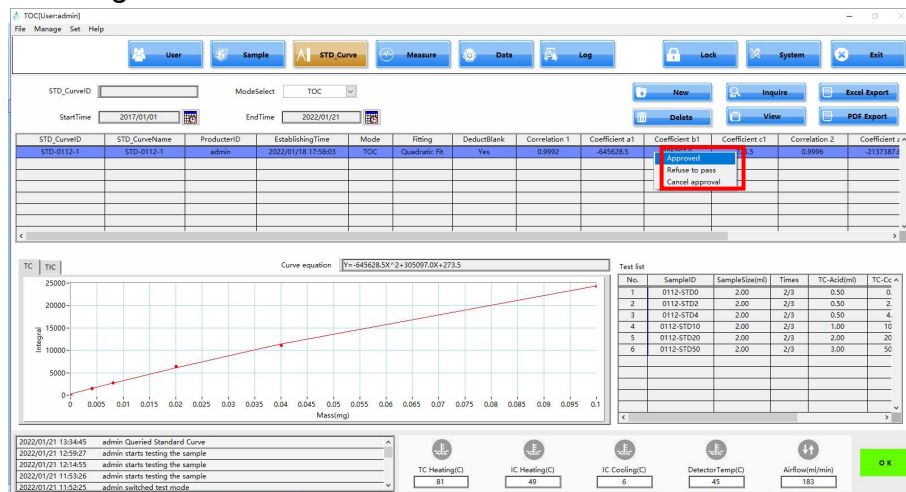
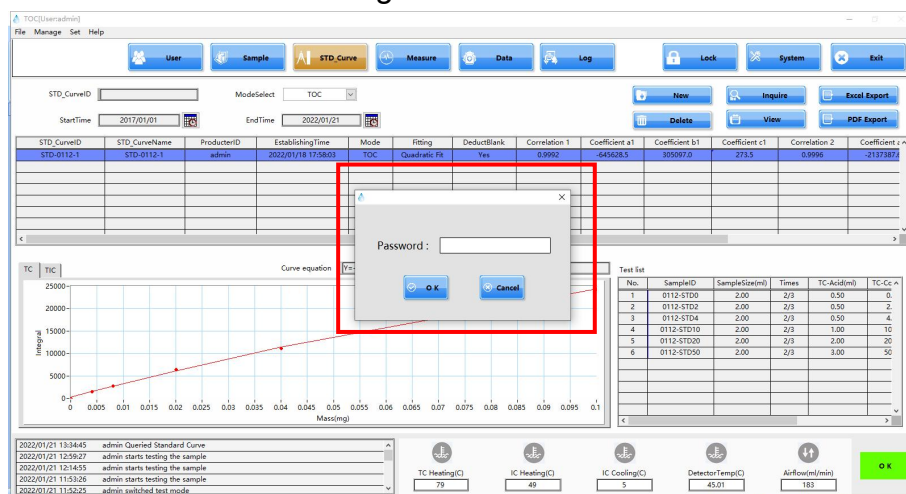
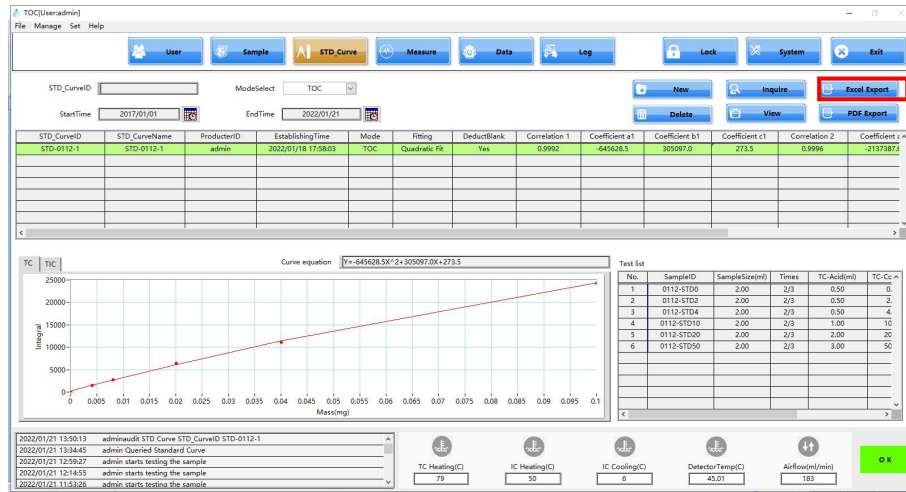
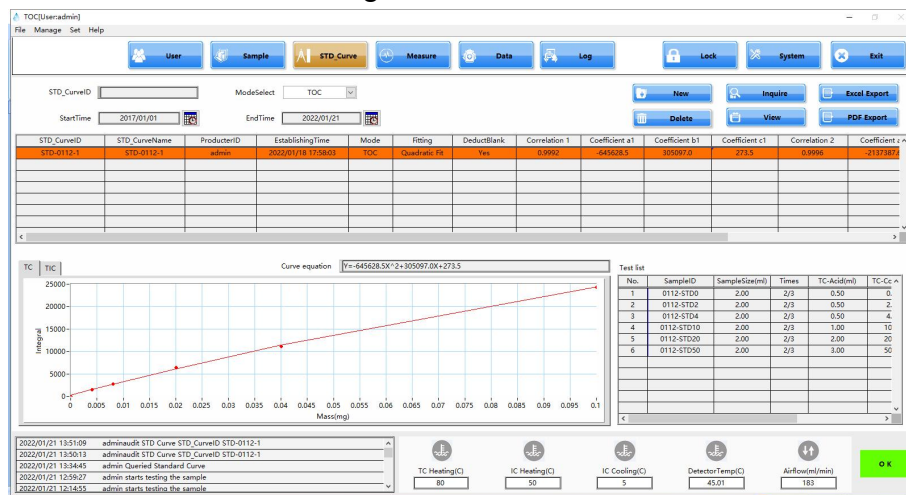

Fig 4.88
Fig 4.89
Fig 4.90.1
Fig 4.90.2
2. After confirmed the selected STD_Curve, right click the pop 3 options (Fig 4.88), click any popover 'Password' (Fig 4.89) and enter the password of the current login user, then signature success. 'Approved' line is displayed in green (Fig 4.90.1), 'Rejected' line is displayed in red (Fig 4.90.2), and 'Cancel' line will return to its original color.
3. Click  (Fig 4.90.1), fill the path in popover and click OK to export the data.